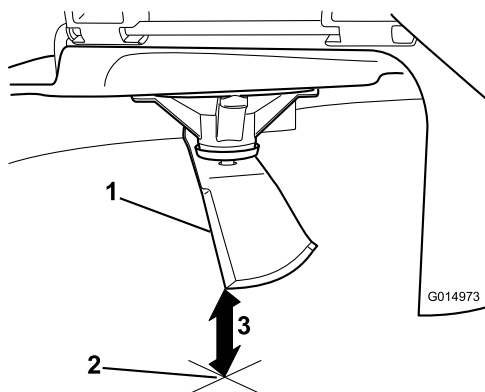

Figure 48
4. Remove the hairpin cotter from the front support rod and remove the rod from the deck bracket (Figure 48). Carefully lower the front of the mower deck to the ground.